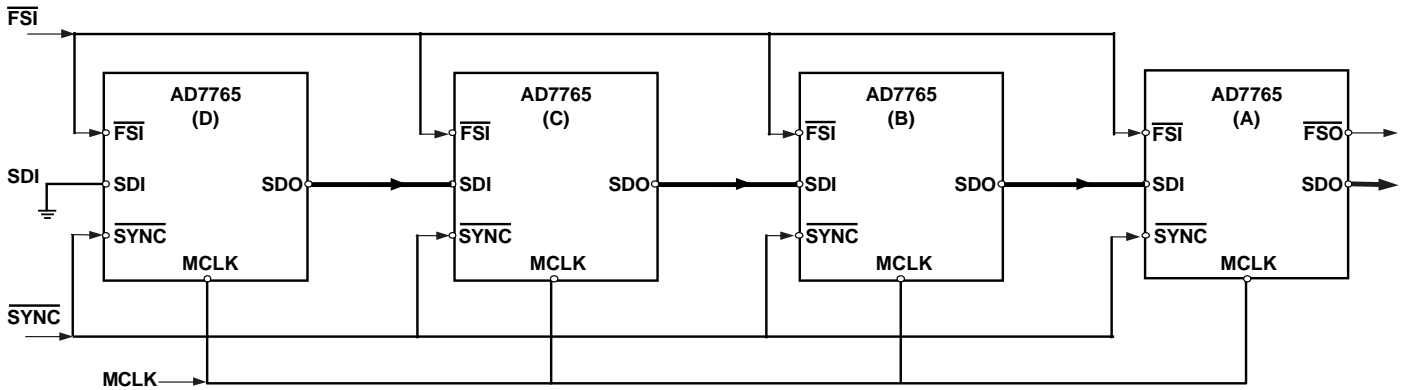

Figure 15. Daisy Chaining 4xAD7765 devices in decimate by 128 mode using a 40Mhz MCLK signal.
The block diagram in Figure 15 shows the way in which devices must be connected in order to achieve daisy chain functionality. Figure 15 shows four AD7765 devices daisy chained together with a common MCLK signal applied, will work for both decimate by 128 or 256 modes.
The SDO line of AD7765 (A) provides the output data from the chain of AD7765 converters. The last device in the chain (AD7765(D) in Figure 15) will have its Serial Data In (SDI) pin connected to ground. All the devices in the chain must use common MCLK and SYNC signals.